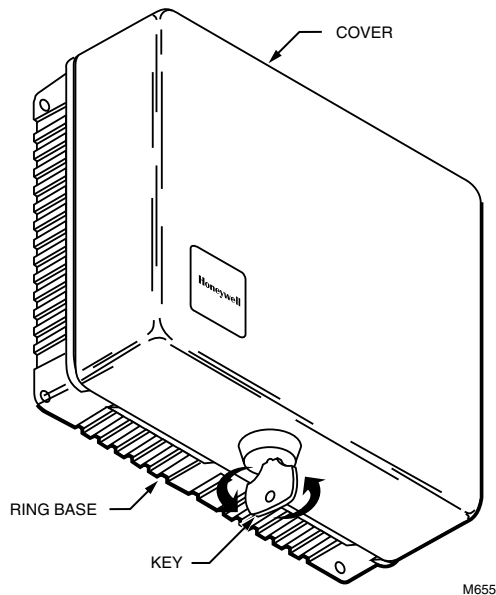

Fig. 8. Lock thermostat guard (TG510, TG511, TG512 shown).
- 6 Lock the thermostat guard by turning the key (provided) counterclockwise. See Fig. 8. The key can be removed only in the locked position.
- 10 Lock the thermostat guard by turning the key (provided) counterclockwise. See Fig. 8. The key can be removed only in the locked position.
- ⓫ Lock the thermostat guard by turning the key (provided) counterclockwise. See Fig. 8. The key can be removed only in the locked position.
- ❾ Lock the thermostat guard by turning the key (provided) counterclockwise. See Fig. 8. The key can only be removed in the locked position.